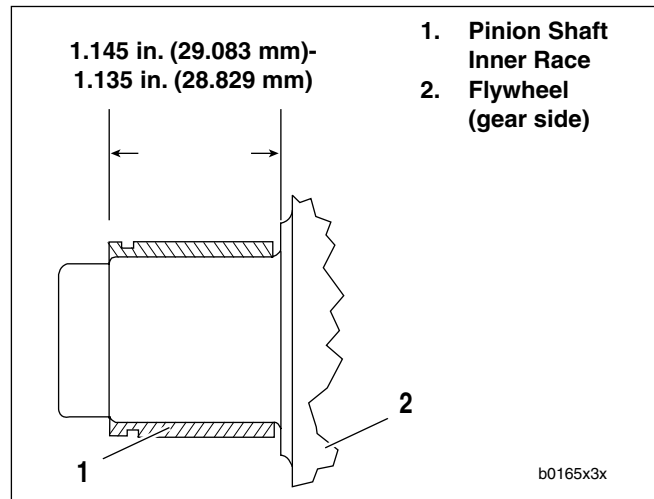

Figure 3-88. Inner Race Location
See Figure 3-88. Pinion bearings are identified as shown.
8. See Figure 3-88. Press **new** inner race on pinion shaft as shown. The **new** inner race must be ground by a competent machinist to OD dimension range for the finished lapped ID of the outer race. See Table 3-13. The finished inner race must meet these specifications. For necessary dimensions for constructing a press-on tool see Figure 3-89. When the tool bottoms against the flywheel, correct inner race location is automatically established.